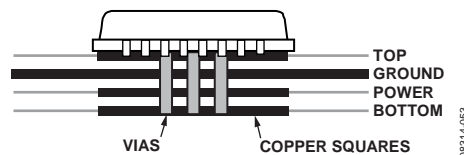

Figure 57. Exposed Pad Layout Example, Side View
- A copper layer equal in size to the exposed pad should be on all layers of the board, from top to bottom, and should connect somewhere to a dedicated copper board layer (see Figure 57).